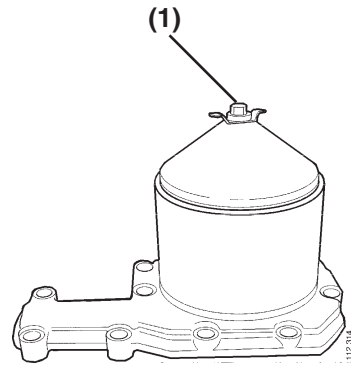

Figure 9
4. Install the bowl and tighten the lock nut to 15 N·m (133 in.-lb) (Figure 9, (1)). Be careful not to damage the rotor shaft, nut or bowl while tightening the lock nut.